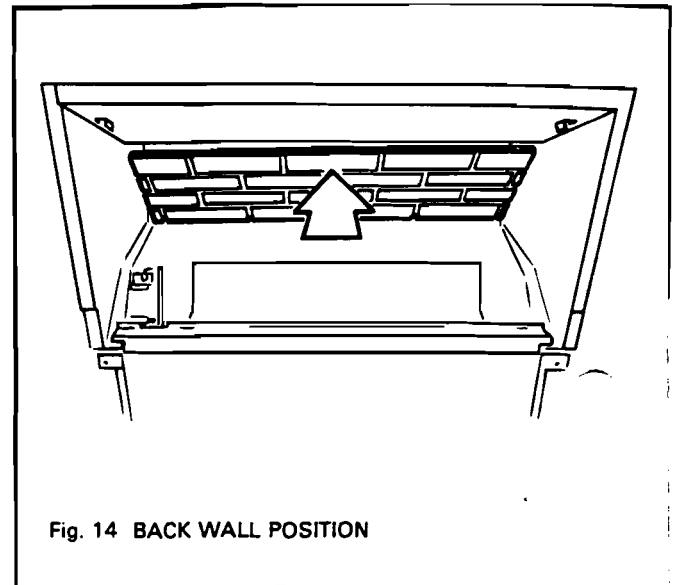

Fig. 14 BACK WALL POSITION
- 6.1 Place the ceramic back wall in position at the back of the firebox. Make sure that the brick pattern is the right way up so that it will align with the side walls pattern (see fig. 14).